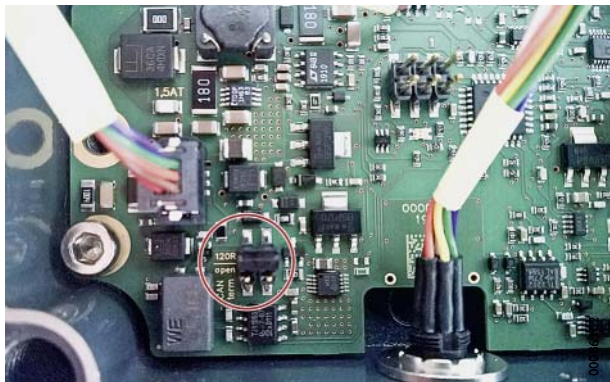

Figure 2
- deactivate the 120 ohm resistor by changing the jumper on the circuit board of the evaluation unit, *Figure 2*. Then close the electronic evaluation system as described above.